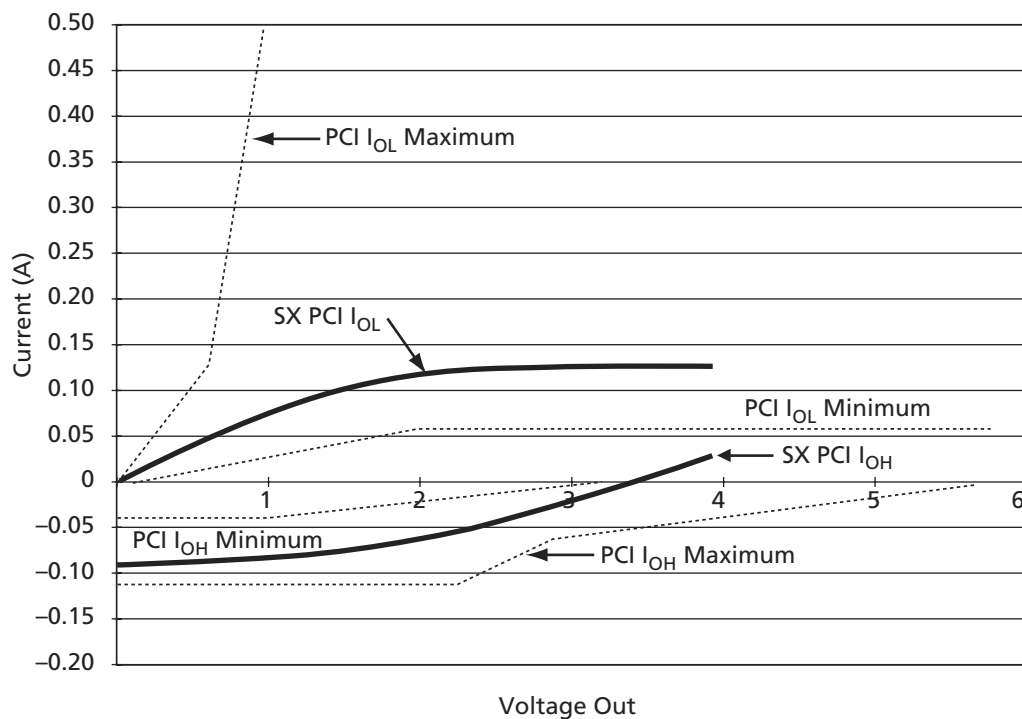

Figure 1-10 • 3.3 V PCI Curve for A54SX16P Device
1. Refer to the V/I curves in Figure 1-10 on page 1-14. Switching current characteristics for REQ# and GNT# are permitted to be one half of that specified here; i.e., half size output drivers may be used on these signals. This specification does not apply to CLK and RST# which are system outputs. "Switching Current High" specification are not relevant to SERR#, INTA#, INTB#, INTC#, and INTD# which are open drain outputs.
2. Maximum current requirements must be met as drivers pull beyond the last step voltage. Equations defining these maximums (C and D) are provided with the respective diagrams in Figure 1-10 on page 1-14. The equation defined maxima should be met by design. In order to facilitate component testing, a maximum current test point is defined for each side of the output driver.
Figure 1-10 shows the 3.3 V PCI V/I curve and the minimum and maximum PCI drive characteristics of the A54SX16P device.